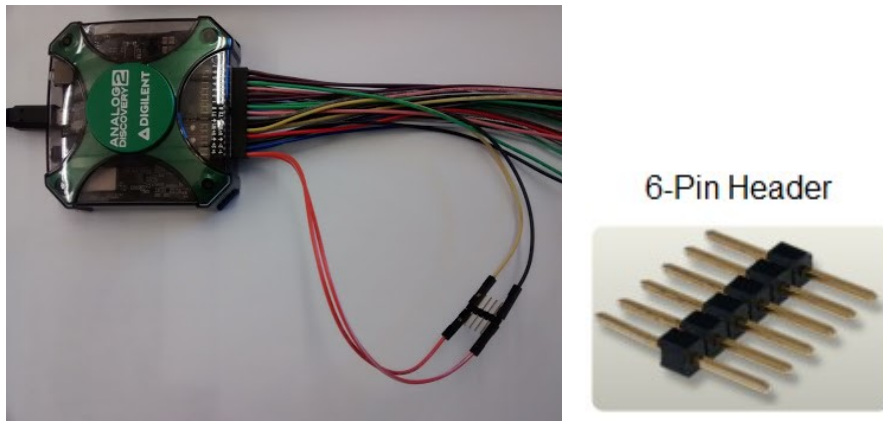

Fig 4. Basic Test Setup: Function Generator (Yellow, and Black for ground) connected to Oscilloscope (Orange, and Orange/White for ground)
- 3) To test your Analog Discovery device (we'll call it AD from now on) configure the following setup shown in Fig 4 so that you can run a signal from the function generator (which generates a sinusoidal signal) into the oscilloscope (which displays it). Note that normally we would need to connect one of four ground (black) wires to our circuit, but for this activity we don't need to hook up ground since the two instruments are tied together inside the box. Simply connect the orange (1+ on case) wire to the yellow (W1) wire, and the orange/white (1-) wire to any black wire (↓) using the 6 pin header provided in the kit.